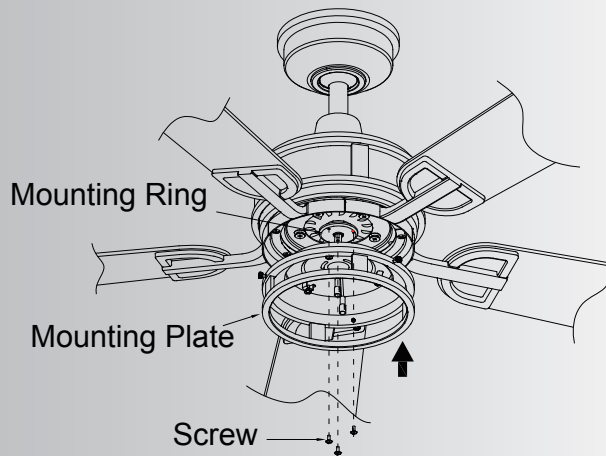

Fig. 20
Step 1. You will find one red label on the mounting ring. Remove the 3 screws preinstalled on mounting ring and keep them for reuse later. Align the red dot labels on the mounting plate to the mounting ring. Attach the mounting plate to the mounting ring with three screws removed previously. Please adjust the mounting plate if necessary, to line up the rim both on the motor body and mounting plate. Tighten the 3 screws securely.(Fig. 20)